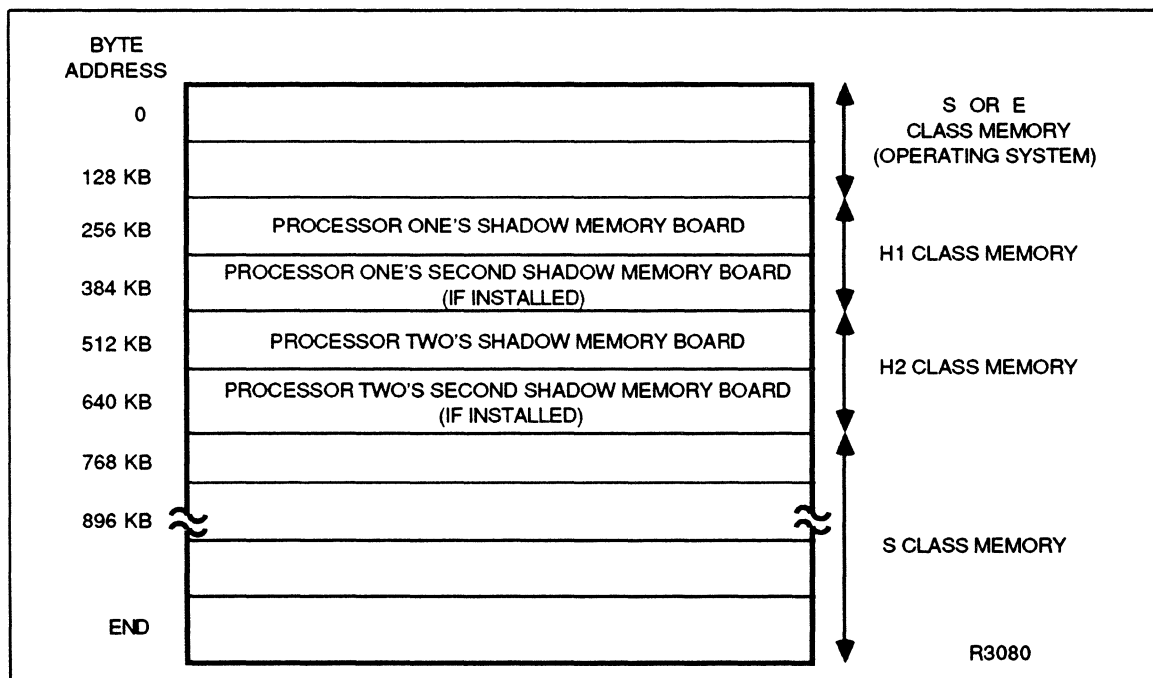

Figure 10-3
- two processors (IPU and CPU) with two nonoverlapping shadow memory regions. The starting addresses of both regions are different and the number of shadow memory boards for each processor can be unequal. See Figure 10-3.